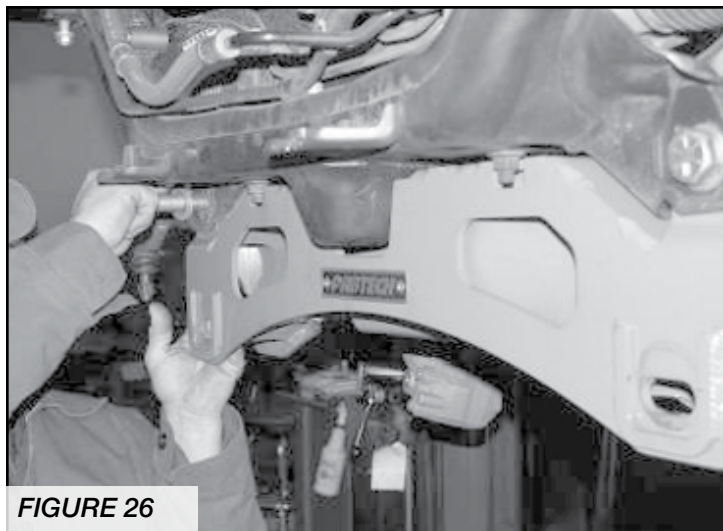

FIGURE 26
19. Locate the Fabtech front crossmember FT70051 06-09 models FT70162 10-12 models, with the supplied $\frac{3}{4}$ " x 4 $\frac{1}{2}$ " bolts, nuts, and washers, attach the crossmember to the factory control arm pockets, leave loose at this time. **SEE FIGURE 26**